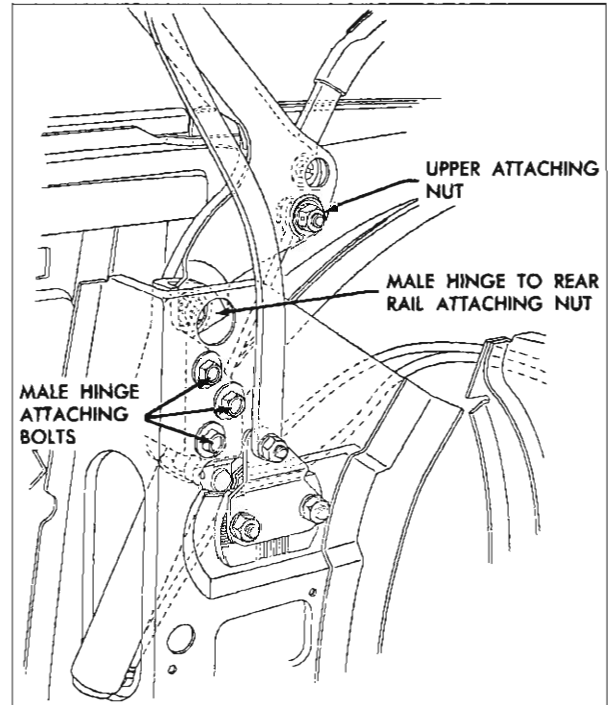

Fig. 117—Lift Cylinder Removal
6. Remove attaching nut, bolt, bushing and washer from upper end of lift cylinder (fig. 117).